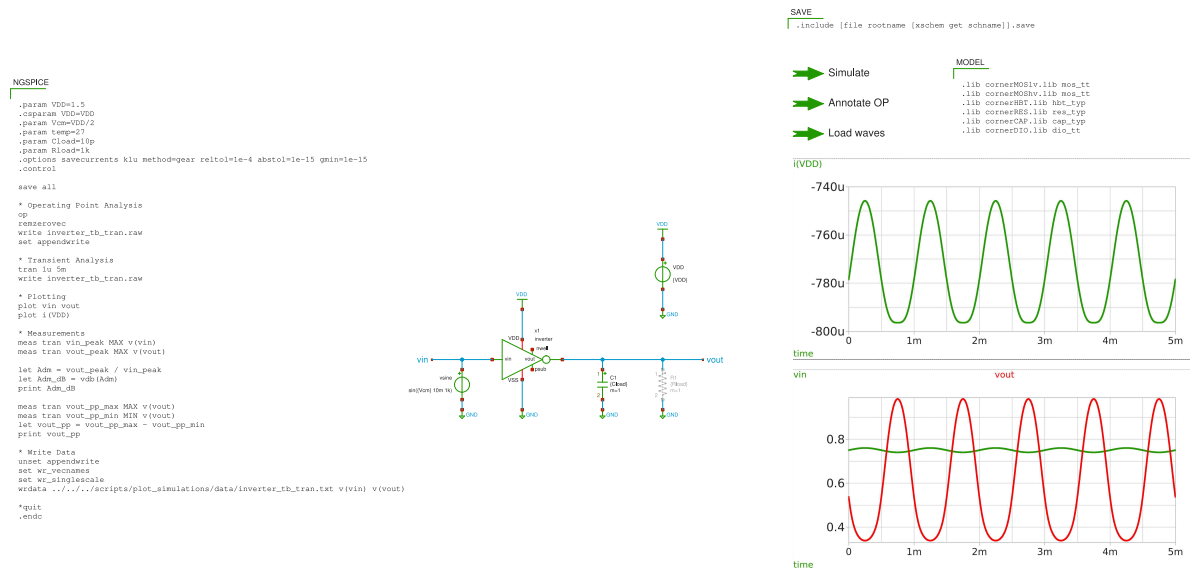

Figure 8: Xschem testbench `inverter_tb_tran` (single-channel transient response on `inverter`).
- inverter_tb_tran.sch, single-channel transient response (see Figure 8),